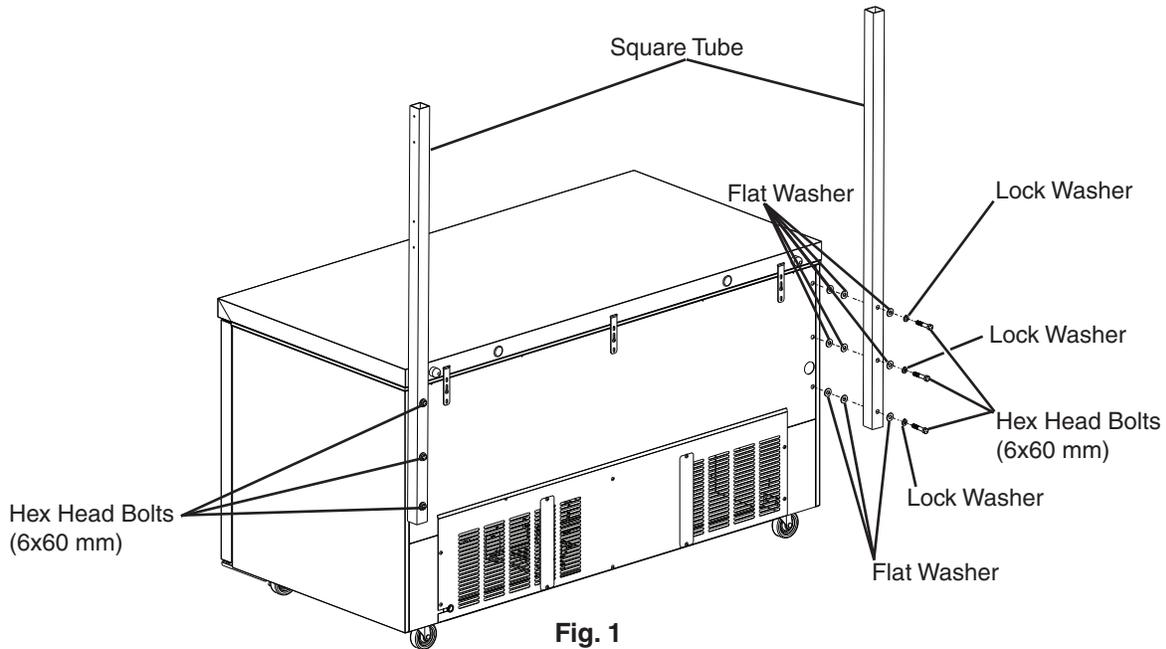

Fig. 1
- 2) Using the hex head bolts (2a), flat washers (2c), and lock washers (2b) provided, secure the square tube to the rear panel. See Fig. 1. Snug, but do not tighten, the hardware.